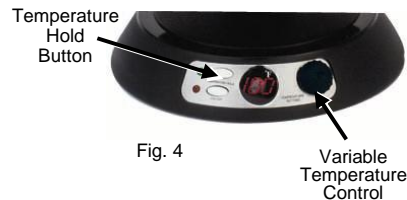

Fig. 4
7. If you wish to keep your water at the set temperature, press the temperature hold button. The temperature hold light will now illuminate. (Fig. 4)